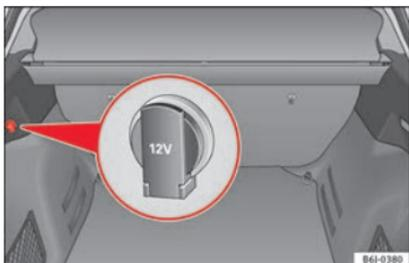

Fig. 155 Detailed view of the side trim in the luggage compartment: 12 volt socket
- Lift the power socket cover »» **Fig. 155**.